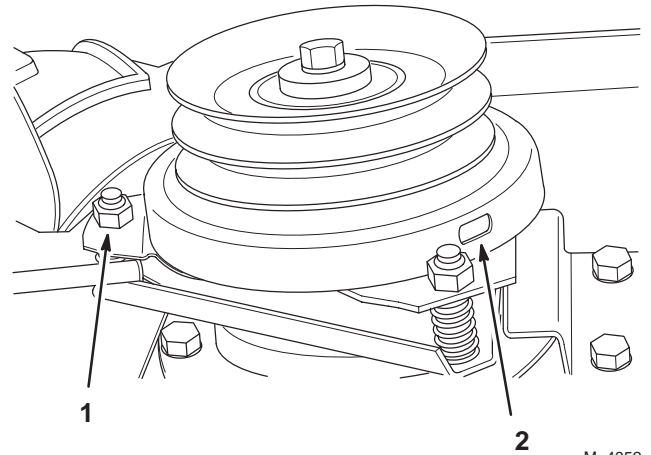

Figure 30
2. To adjust the clutch, tighten or loosen the locknuts on the flange studs (Fig. 30).